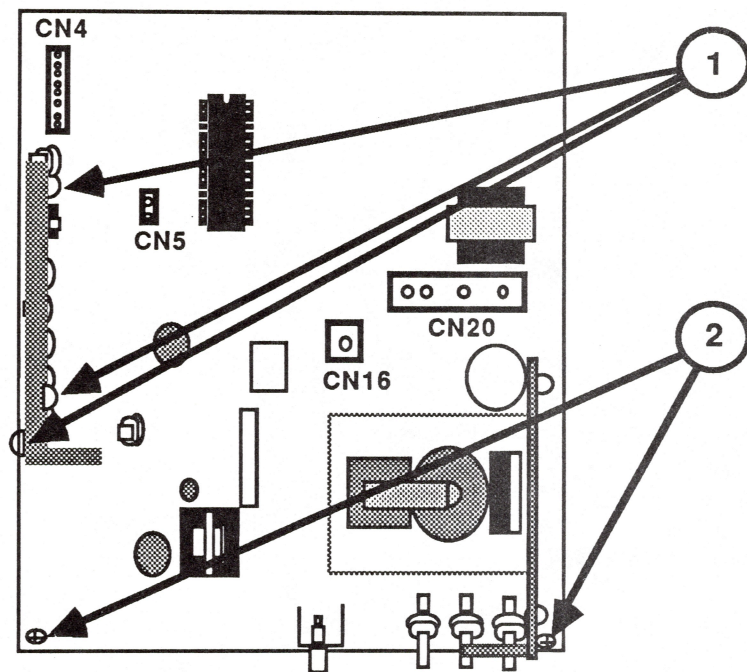

FIGURE 17
5. Remove the two mounting screws from the inside corners of the power supply board and the one remaining mounting screw on the outside corner (Figure 17, #1).
6. Remove the two screws (Figure 17, #2) from the rear corners of the main logic PCB.
2. Replace the two screws (Figure 17, #2) at the rear corners of the main logic PCB.
4. Replace the three mounting screws (Figure 17, #1) which secure the power supply board bracket to the logic board frame.